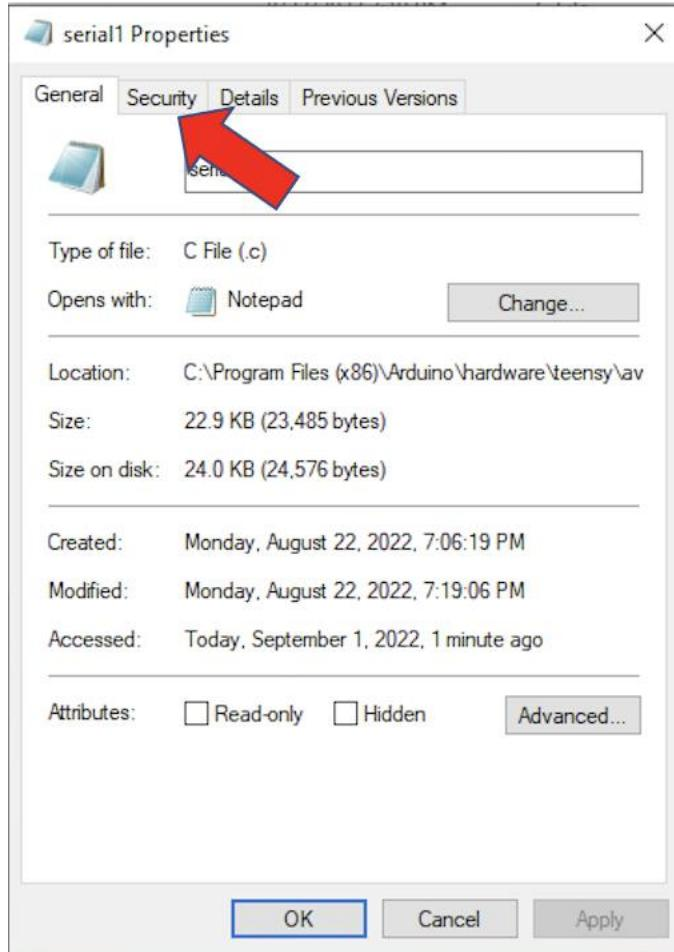

Figure 73. Serial1 File Properties Window
12. After selecting properties, the window in Figure 73 will open. Select SECURITY tab.